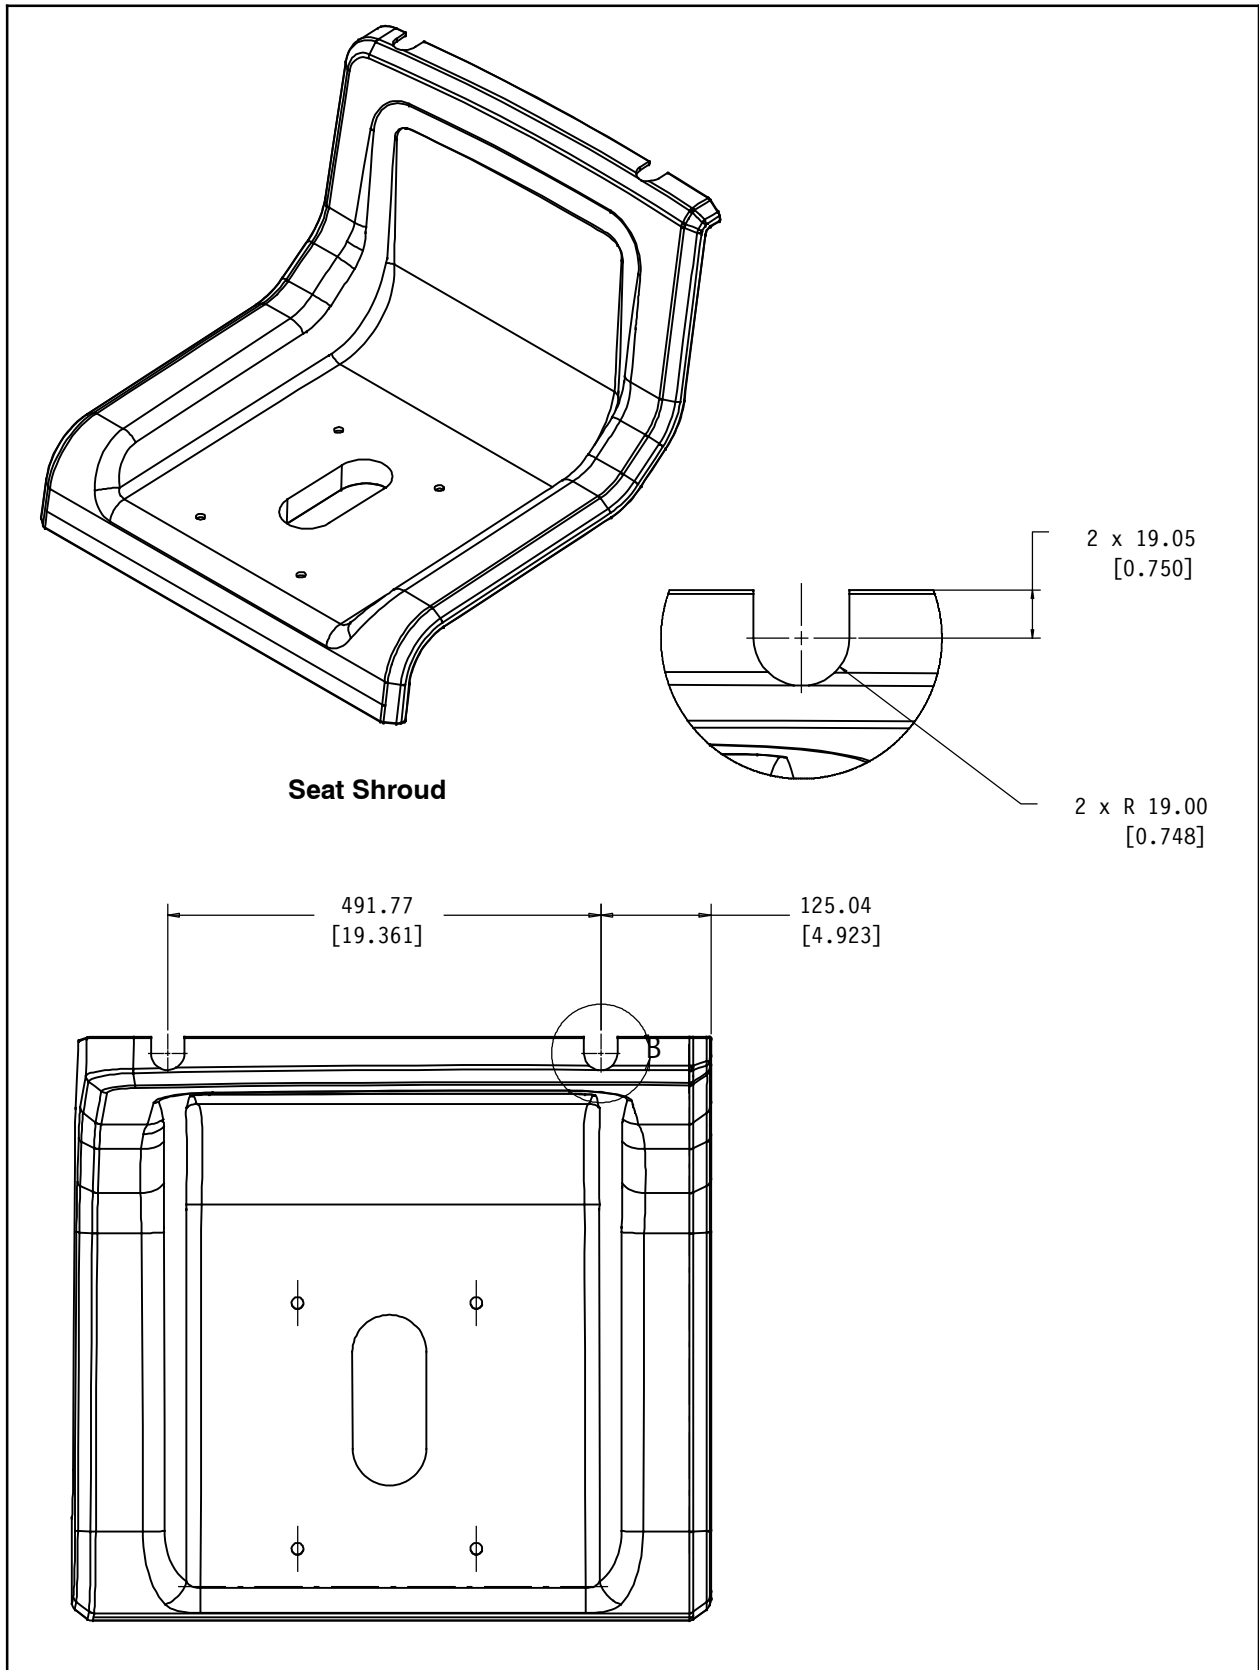

FIG. 9
10. Cut slots from the drilled holes using a jigsaw. (Fig. 7 / Fig. 9)